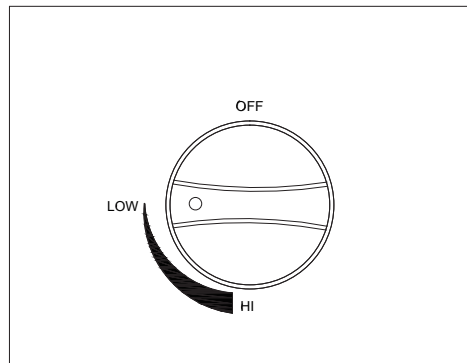

Figure 2
4. Press and turn the control knob counterclockwise to the "low" position to ignite the burner (Fig. 2).